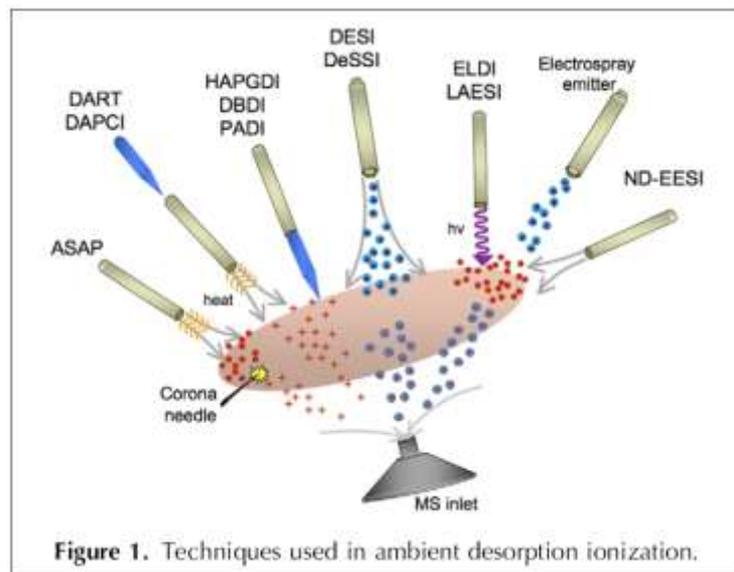

Figure 1. Techniques used in ambient desorption ionization.
Fig. 1. Stepwise evolution after ESI of the structure of a globular protein (e.g., cytochrome c, ubiquitin). (A) Native protein covered with a monolayer of  $H_2O$ , followed by nanosecond  $H_2O$  loss and concomitant cooling. (B) Native protein with exterior ionic functionalities still hydrated undergoes ns  $H_2O$  loss and cooling. (C) The dry protein undergoes  $\sim 10$ -ps collapse of its exterior ionic functionalities. (D–G) The exterior-collapsed “near-native” protein undergoes thermal re-equilibration (D), millisecond loss of hydrophobic bonding (E), and millisecond loss of electrostatic interactions (F); the transiently unfolded ions form new noncovalent bonds in seconds, folding to more stable gaseous ion structures (G); these stabilize to energy minima conformers in minutes.